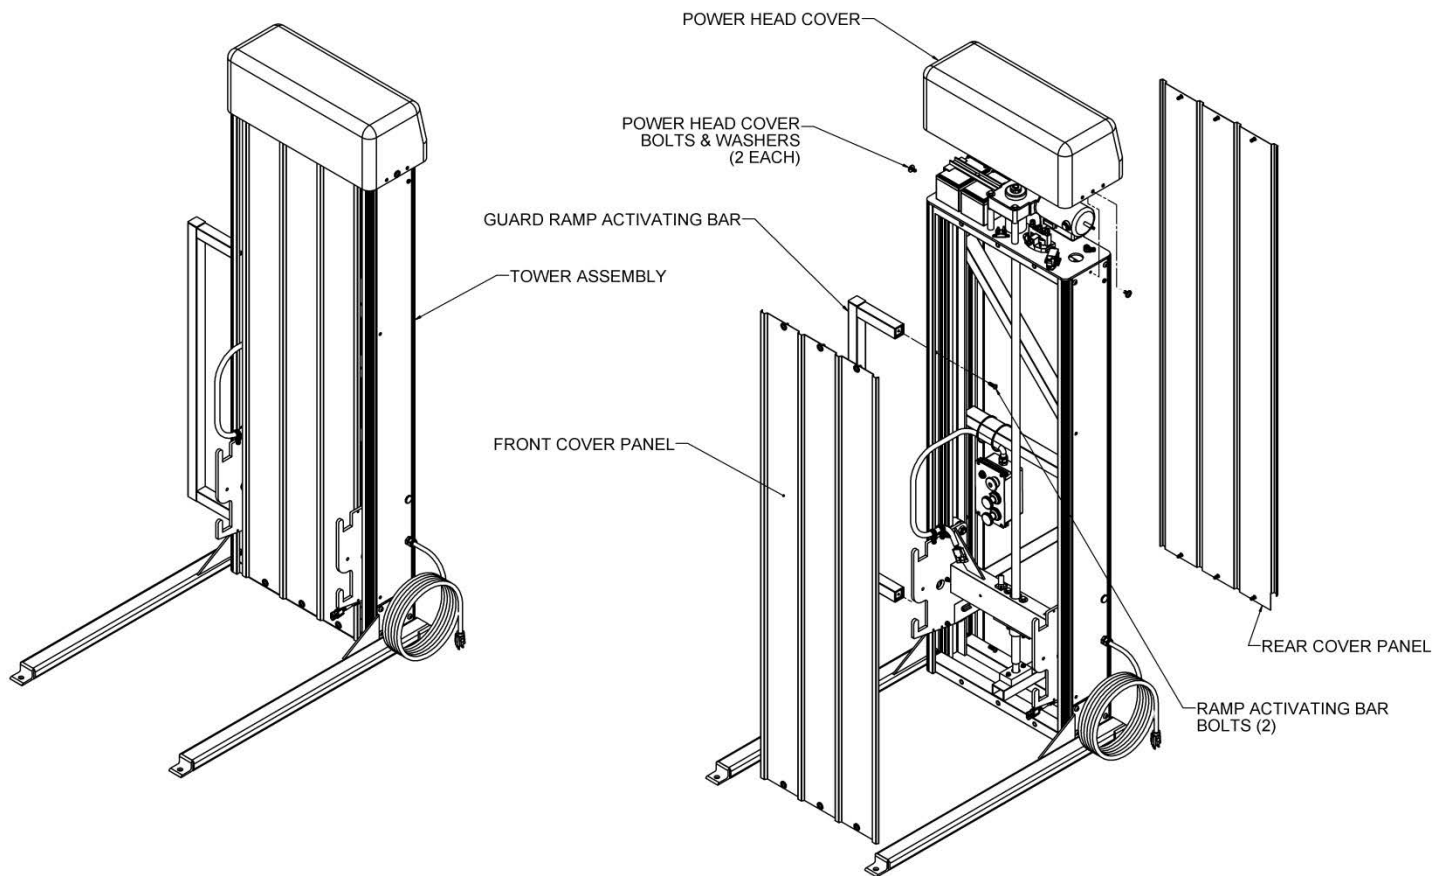

FIG. 4.1
1. Remove the power head cover first by removing the two button head bolts on either end (FIG. 4.1).